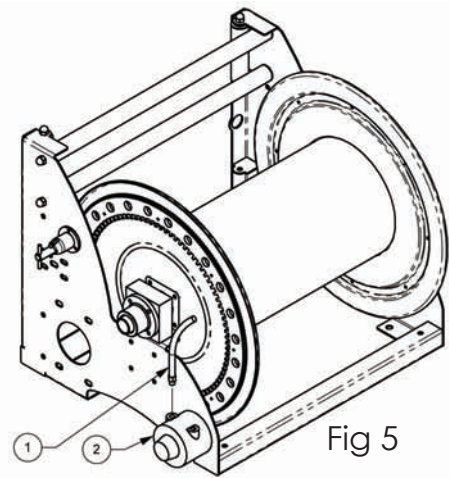
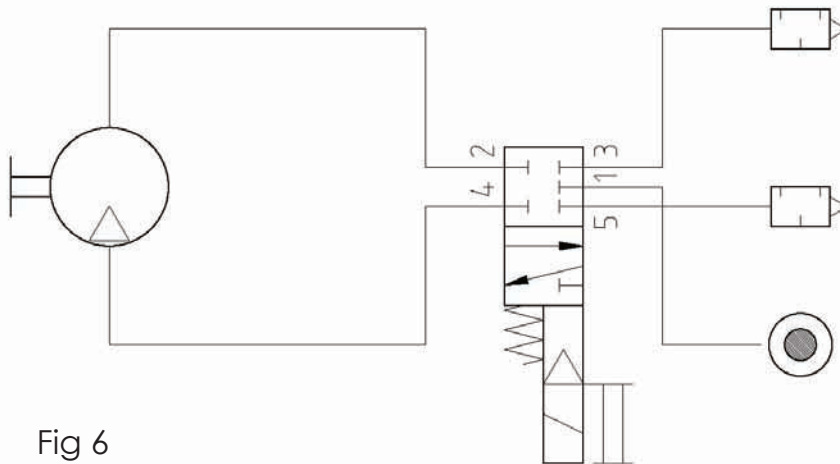

Fig 5
Fig 6
## Plumbing Diagram Air Drive Reels - Fig 5, Fig 6 & Fig 7
- Fig 5 shows the connection ports for the air supply. One or both ports may be required pending how you require the system to operate.
- Fig 6 shows single direction rotation.